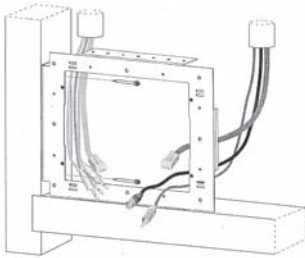

Figure 2. Nail Bracket Cabling
- 4) Feed the cables through to the nail bracket. The use of conduit is recommended. Refer to Figure 2. The number and positioning of cables will vary depending on the particular installation.